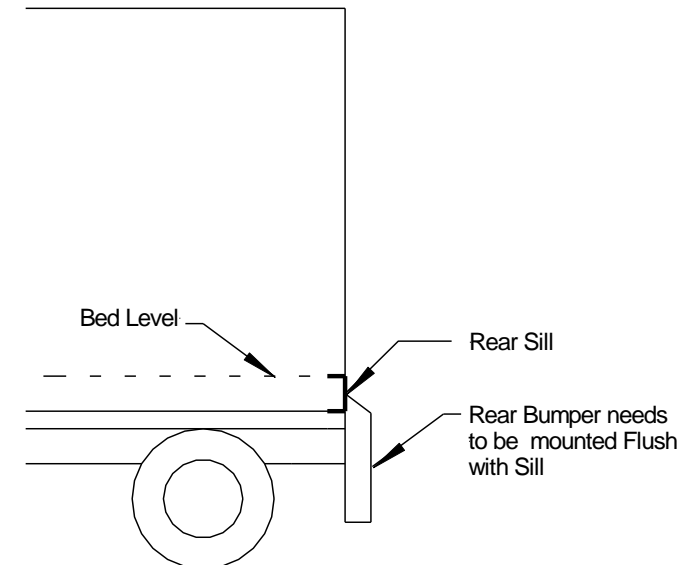

Fig. 1
1. Prep rear sill: Remove any sill or corner post mounted lights, grab handles, or bumpers, **Fig 1**. Your goal is to have a flat and flush mounting surface for the liftgate.